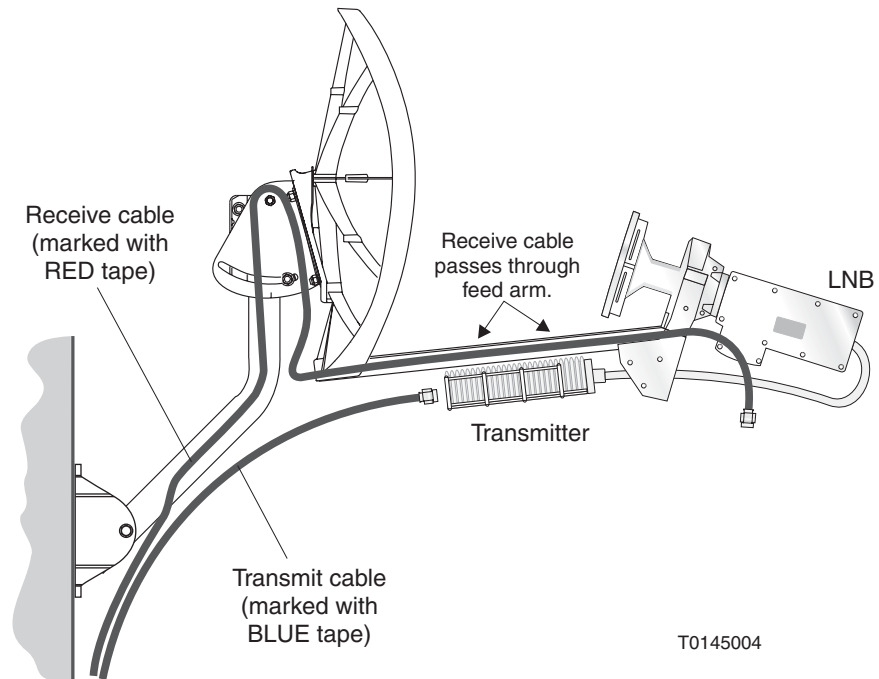

Figure 30: Transmit and receive cable configurations
1. Route the transmit cable (marked with blue electrical tape) to the back of the transmitter in a configuration similar to that shown in Figure 30.
2. Route the receive cable (marked with red electrical tape) up the mast, behind the reflector, and through the feed arm to the LNB to achieve a configuration similar to that shown in Figure 30.